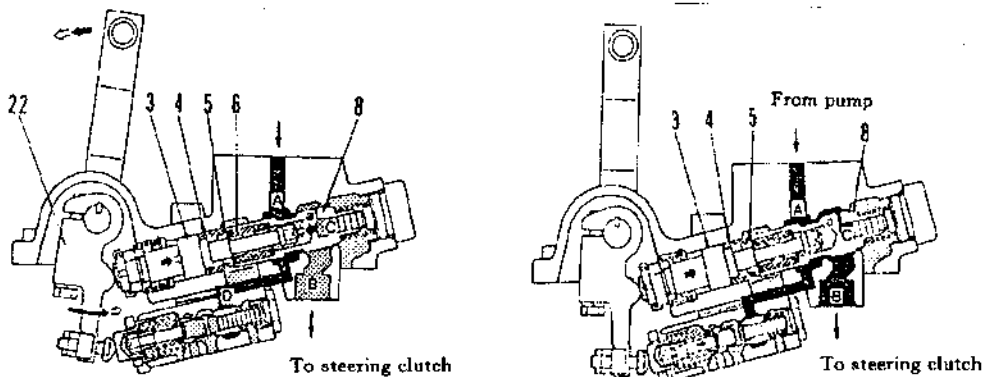

Fig. 2-73
(3) When the oil pressure at the steering valve rises to the maximum valve:
When the steering lever is pulled further from state mentioned in paragraph 2, stopper (5) comes into contact with steering valve (8) and spring (6) assumes the minimum installation height. In this state, shaft (3) starts to push steering valve (8) via spring (4) so that the force required to operate the steering lever rises sharply. When the steering lever is pulled further, shaft (3) compresses spring (1) to gradually increase the installation load and the oil pressure in the circuit after port B. When the installation load of spring (4) is maximized and the oil pressure in circuit reaches 1.57MPa, the clutch is released entirely (as shown in Fig. 2-73).